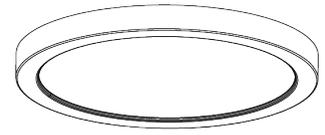

Fig. 6
6. Once assembly is complete, turn on power to confirm fixture is working properly. (Fig. 6)